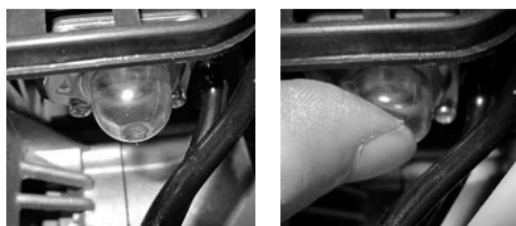

Fig.12
- 1) Press the primer cylinder several times until it is filled with fuel. (fig.12)